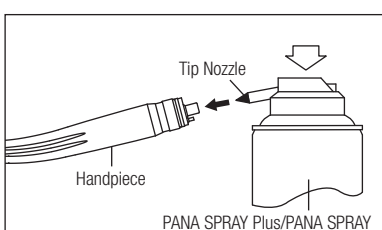

Fig. 10
- 3) Mount the Tip Nozzle into the spray can port (Fig. 10).
- 3) Lubricate the handpiece by using NSK PANA SPRAY Plus/PANA SPRAY (Fig. 10,12) or NSK automatic handpiece cleaning and lubrication system.